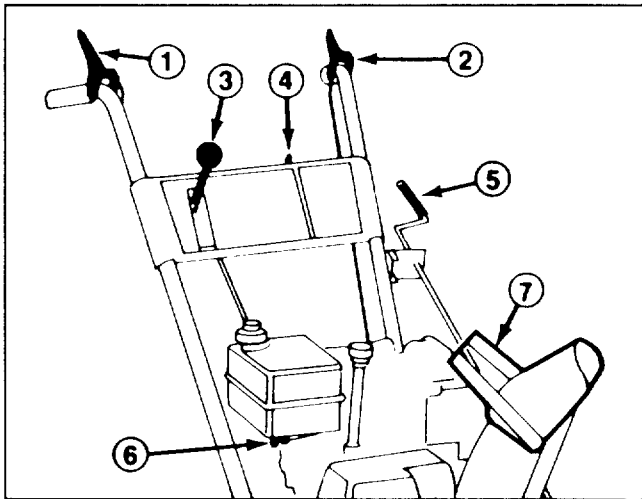
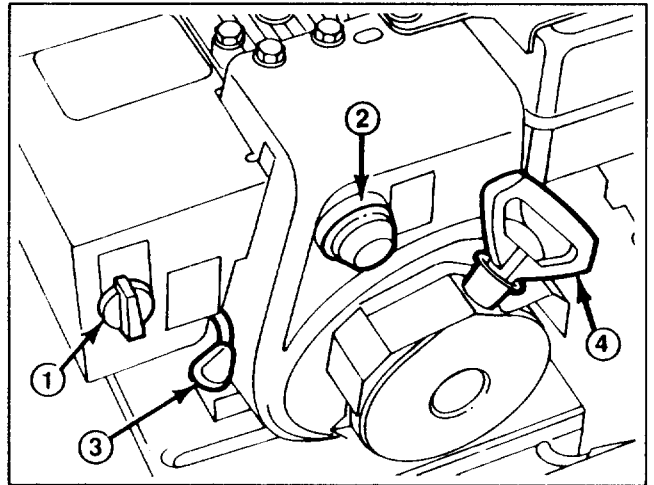
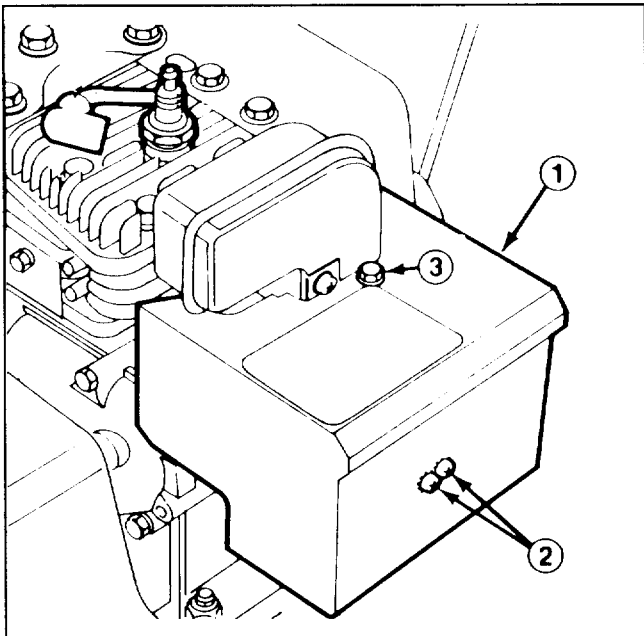

Figure 14
Figure 15
Figure 16
**Auger Drive Control** (Fig. 14)—Control has two positions: ENGAGE and DISENGAGE. To engage both auger and impeller, compress lever against right handgrip. To disengage, release lever.
**Traction Control** (Fig. 14)—To engage traction (wheel drive), lever must be compressed against left handgrip. To stop traction, release lever.
**Speed Selector** (Fig. 14)—The control has four positions: reverse, 1, 2 and 3. To change speeds, move gear shift to position desired. Lever will lock in notch at each speed selection. Use positions 1, 2 or 3 depending on snow conditions.
**Ignition Switch** (Fig. 14)—Switch has two positions: ON and OFF. Rotate key to ON position before starting engine with the recoil starter. To stop engine, rotate key to OFF.
**Throttle** (Fig. 15)—Moving the throttle upward increases engine speed.
**Choke** (Fig. 15)—Rotate choke to FULL choke position to start a cold engine. As engine warms up, move choke gradually to OFF.
**Primer** (Fig. 15)—Press primer to pump a small amount of gasoline into engine for improved cold weather starting.
**Fuel Shut-Off Valve** (Fig. 14)—Valve is located under fuel tank. Close valve to stop fuel flow from fuel tank and open valve to allow fuel to flow to the carburetor. Close valve when snowthrower is not in use.
**Discharge Chute Control** (Fig. 14)—Rotate discharge chute control clockwise to move discharge chute to the left and counterclockwise to move chute to the right.
**Recoil Starter** (Fig. 15)—Recoil starter is on back side of engine. Pull recoil starter to start engine.
**Chute Deflector Handle** (Fig. 14)—Deflector handle is on top of discharge chute, and it is used to control height of the snow stream.
**Note:** If engine is operated when temperature is +40° F (4° C) or higher, remove carburetor heater box (Fig. 16). However, the heater box must be reinstalled when temperature falls below +40° F (4° C). To remove heater box:
- A. Remove (2) phillips screws and (1) hex head screw securing heater box in place (Fig. 16). Pull choke knob off choke rod (Fig. 15).
6. Grasp recoil starter handle (Fig. 15) and pull it out slowly until positive engagement results; then pull vigorously to start the engine. Keep firm grip on starter handle and return the rope slowly.
7. After engine starts, immediately rotate choke (Fig. 15) to 3/4 position. As engine warms up, rotate choke to 1/2 position; then to OFF position. If engine falters, return choke to 1/2 position. When engine warms sufficiently, rotate choke to OFF position.
1. Move throttle (Fig. 15) to FAST.
2. Open fuel shut-off valve below fuel tank (Fig. 14).
3. Rotate choke (Fig. 15) to full choke position.
4. Rotate ignition key (Fig. 14) to ON.
1. Release traction and auger drive controls (Fig. 14).
2. Move throttle (Fig. 15) to slow and rotate ignition key (Fig. 14) to OFF.